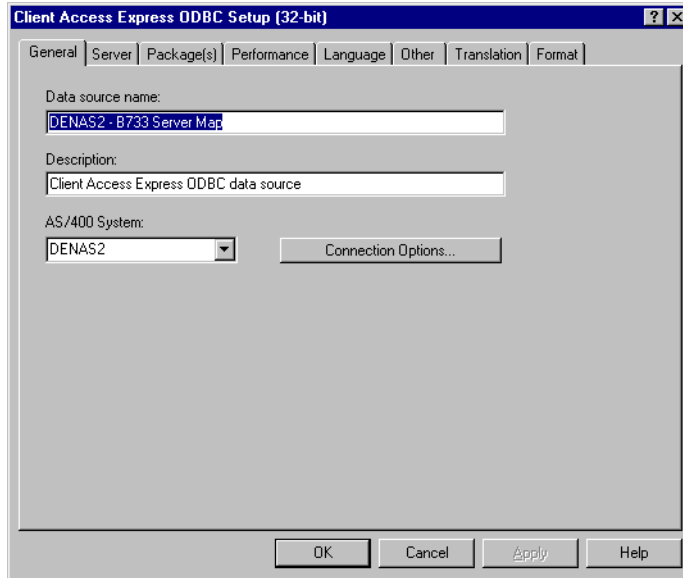

Figure 66. Client Access Express ODBC Setup (32-bit) (Part 1 of 6)
4. Click **Finish**. The Client Access Express ODBC Setup (32-bit) form appears. The information should appear similar to the example in Figure 66 on page 198, except your AS/400 system name is substituted for DENAS2.
5. Click **Finish**. The Client Access Express ODBC Setup (32-bit) form appears. The information should appear the same as shown in Figure 66 on page 198, except the Data source name is now System - B733.
23. Click **Finish**. The Client Access Express ODBC Setup (32-bit) form appears. The information should appear the same as shown in Figure 66 on page 198, except the Data source name is now Object Librarian - B733.
41. Click **Finish**. The Client Access Express ODBC Setup (32-bit) form appears. The information should appear the same as shown in Figure 66 on page 198, except the Data source name is now Data Dictionary - B733.